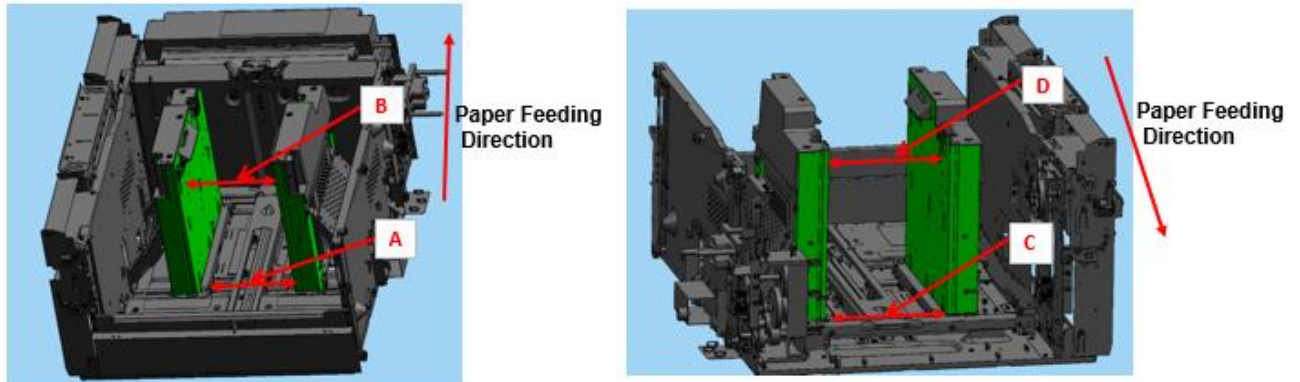

Fig. 2
4. Measure the distances (spans **A**, **B**, **C**, **D**) between the two side fences as shown in Figs. 2 and 3.